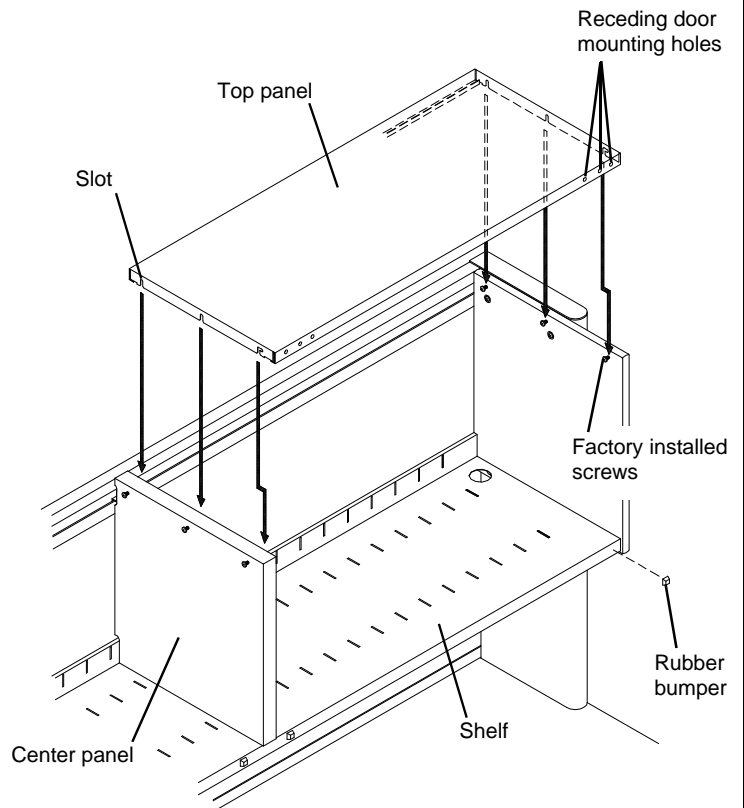

Figure 5
2. Position one Top Panel above the six upper screws, three on one End Panel and three on the Center Panel. The Receding Door mounting holes must face forward. Lower the Top Panel onto the screws so that the six screws engage their corresponding slots in the Top Panel. See **Figure 5**.
4. Apply the four **Rubber Bumpers** to each end and center of the Shelf as shown in **Figure 5**.